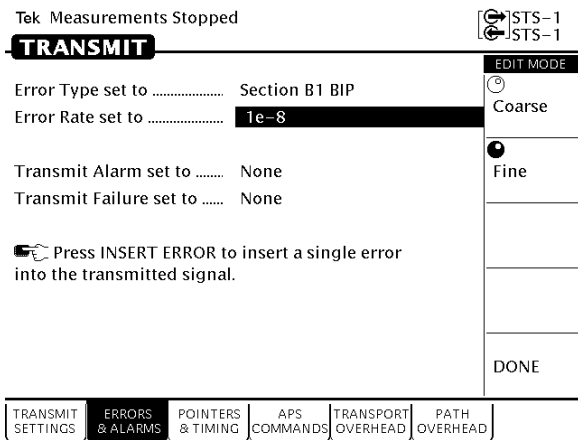

Figure 3–47: Setting An Error Rate
2. Select **USER DEFINED** to specify an error rate different from the preset choices. The CTS 710 enters edit mode (Figure 3–47).